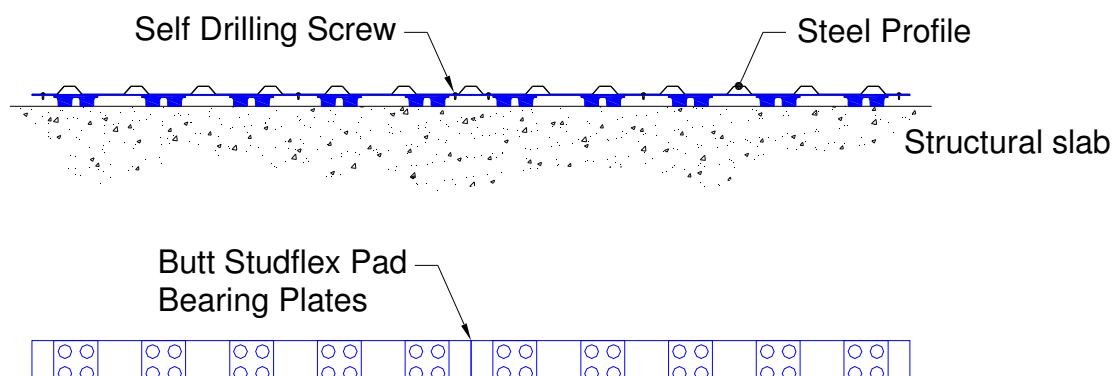

Figure 5
- 7) Studflex bearing pad plates must be laid butt to butt and screwed to upper steel profile (See Figure 5). Note: Self drilling screw length not to exceed depth of bearing pad.